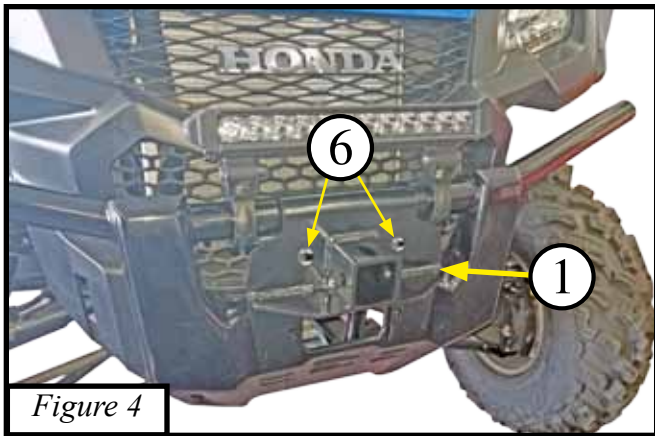

Figure 4
2. Set the receiver mount (1) on the front of the bumper. Shown in Figure 4.
4. Bolt the bracket to the receiver loosely & evenly using the two 3/8 carriage bolts (6), nuts (4) and washers. As shown in Figures 4 & 6.